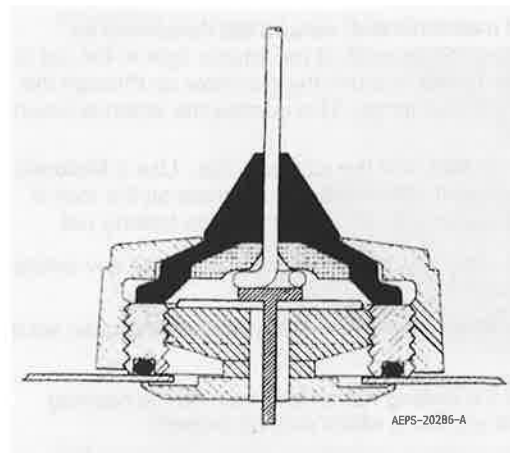

Figure 3 Cross-Section of Assembled Antenna
**Note:** See Figure 3. If the bushing assembly should slip or rotate for any reason during the tightening procedure, insert the tips of a long nose plier or spanner wrench into the two holes in the bushing assembly and apply force to prevent rotation until the locking nut is tight.